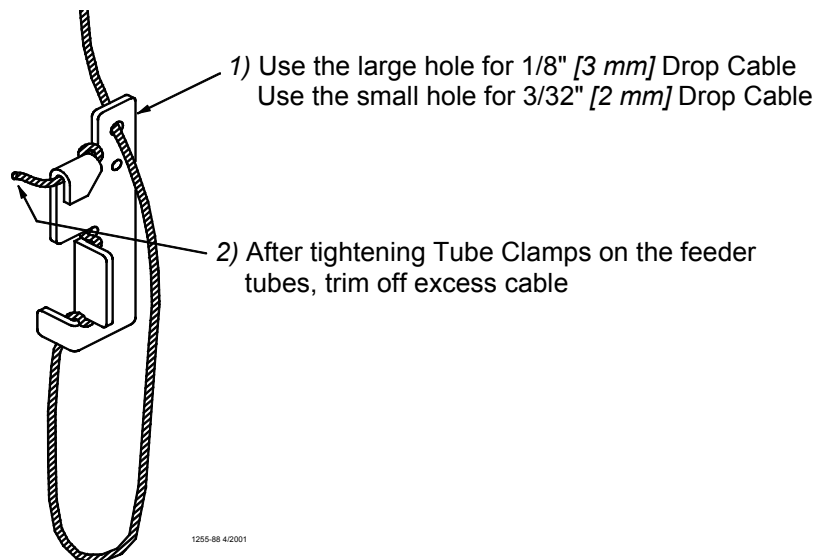

Figure 39. Cable Lock Threading
6. Install Adjustment Leveler within 6" [152 mm] of feeder line. **Figure 39** shows the proper cable routing around the Adjustment Leveler.
Finally, tighten the Tube Clamps on the feeder tubes. Clamp the joints securely, but do not crush the tubes. Re-adjust all Adjustment Levelers as needed and trim off excess cable as shown in **Figure 39**.